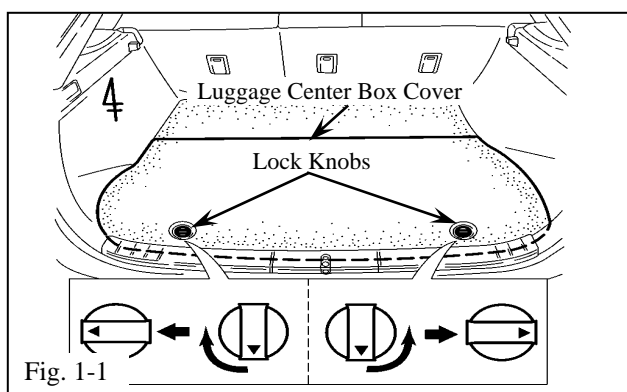

Fig. 1-1
- Remove the luggage center box cover (rear floor board no. 2) as follows: (Fig. 1-1)